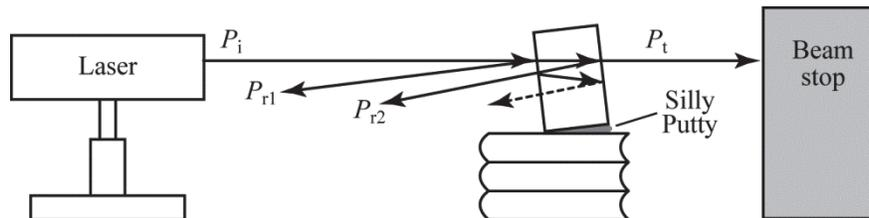
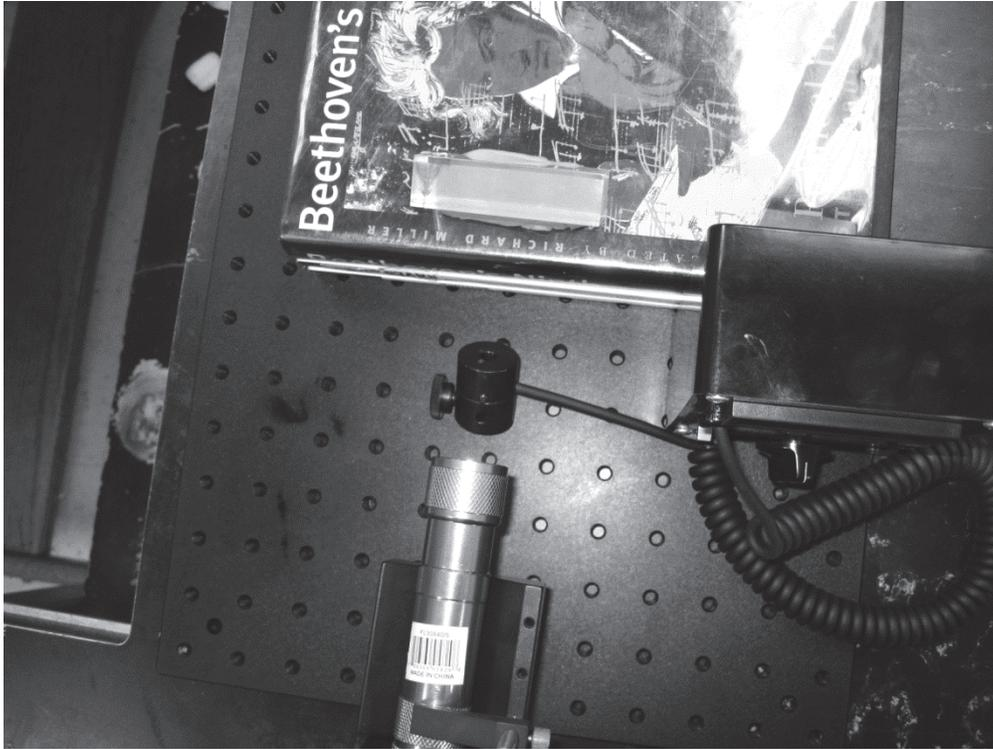

Figure 21 – Acrylic Block Power Measurements Set-up
Figure 22 – Acrylic Block Power Measurements Set-up
- Using the V-Clamp mount for laser (LI-2), a 1.5" post (LI-5), and a 1.5" post holder (LI-4), mount the laser diode module (LI-1) to the optical breadboard (LI-3). Turn the laser diode module on. Using books (LI-8) and silly putty (LI-9), position an acrylic block (LI-6) at an angle where two separate reflected beams, one from the front surface P_{r1} and one from the rear surface P_{r2} are visible. The angle of the block should cause P_{r1} and P_{r2} to be in a location that the fiber optics digital photometer (LI-7) can measure each separately. Refer to Figure 21 and Figure 22.